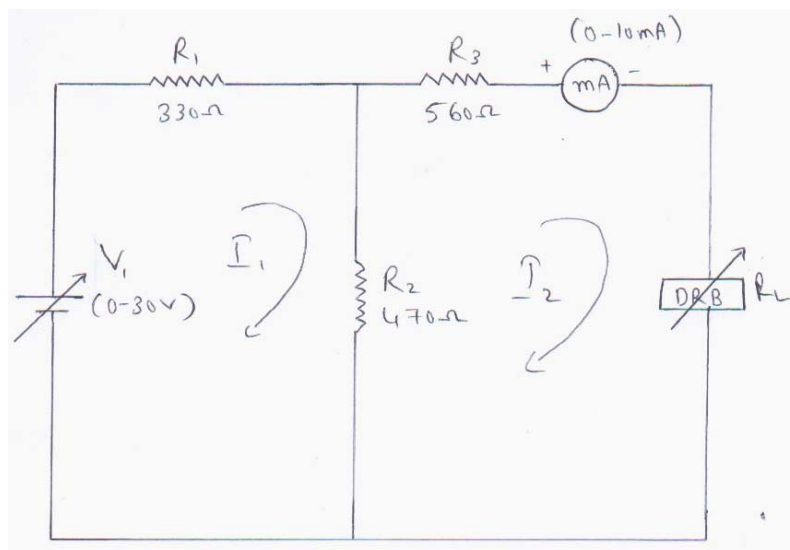

Figure 7.1
1. First find the Thevenin equivalent circuit for circuit shown in figure 7.1.